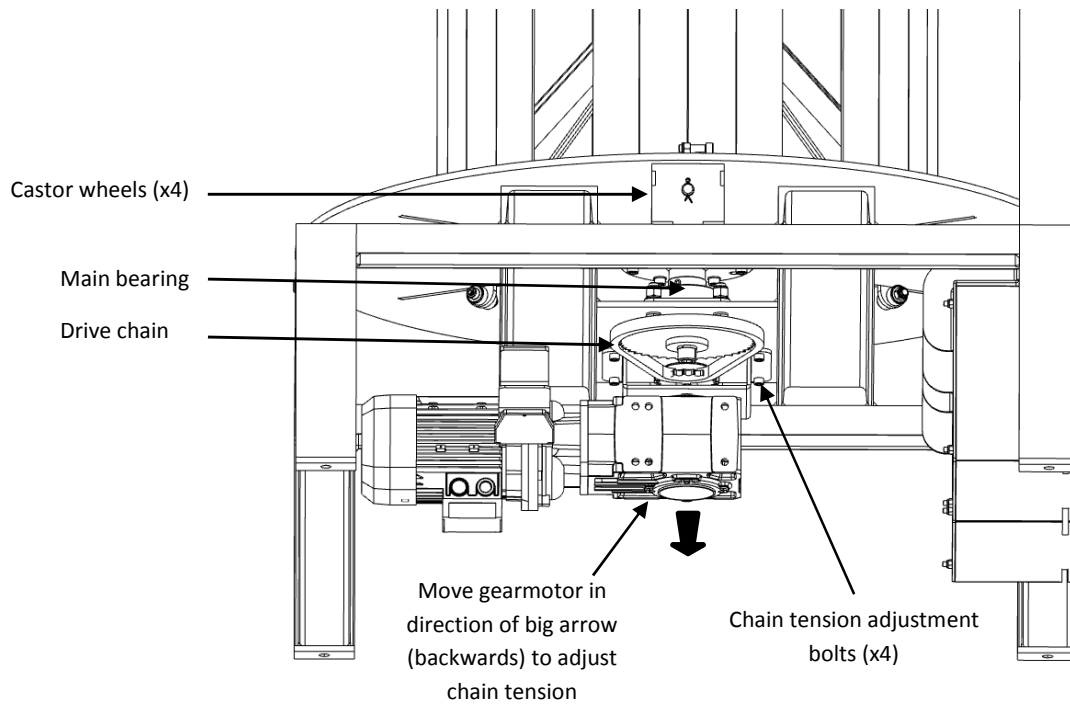

Figure 21: Coiler underside
- The main bearing under the turntable should be greased every 6 months through the grease nipple (Figure 21)
- The drive chain should be lubricated with a suitable chain lubricant (Figure 21)
- Main bearing (Figure 21) – Every 6 to 12 months, depending on usage
- Castor wheels under turntable (Figure 21)
- To adjust chain tension, loosen (do not remove completely) the four chain tension adjustment bolts (Figure 21).